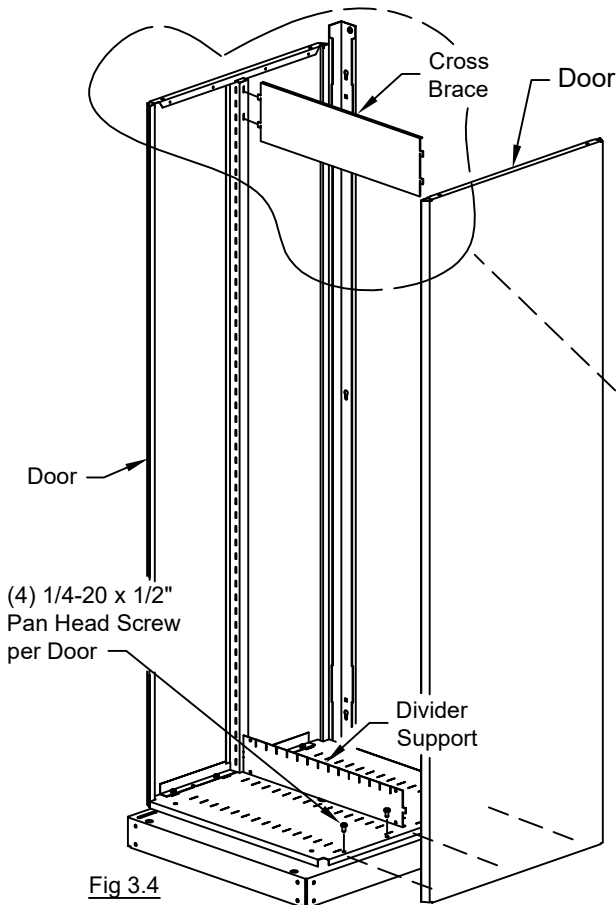

Fig 3.4
Insert the Cross Brace into the slots shown. The tabs on the cross brace should be pointing toward the floor. (Fig. 3.3) Slide the second door onto the bottom swivel pan. Verify that divider support tab and cross brace tabs are properly seated into the second door. (Fig. 3.4) Screw door into place using (4) 1/4-20x1/2" Pan Head Screws. Tighten all screws on both doors.